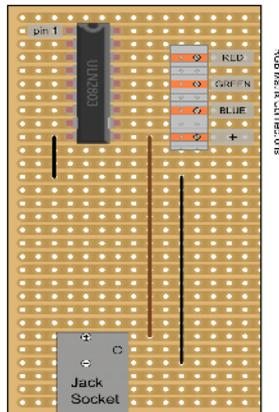

Figure 5-30. *Soldering terminal blocks into place*
- Place and solder terminal blocks into place (Figure 5-30). The bottom pin lines up with the bottom pins of the Darlingtion array.